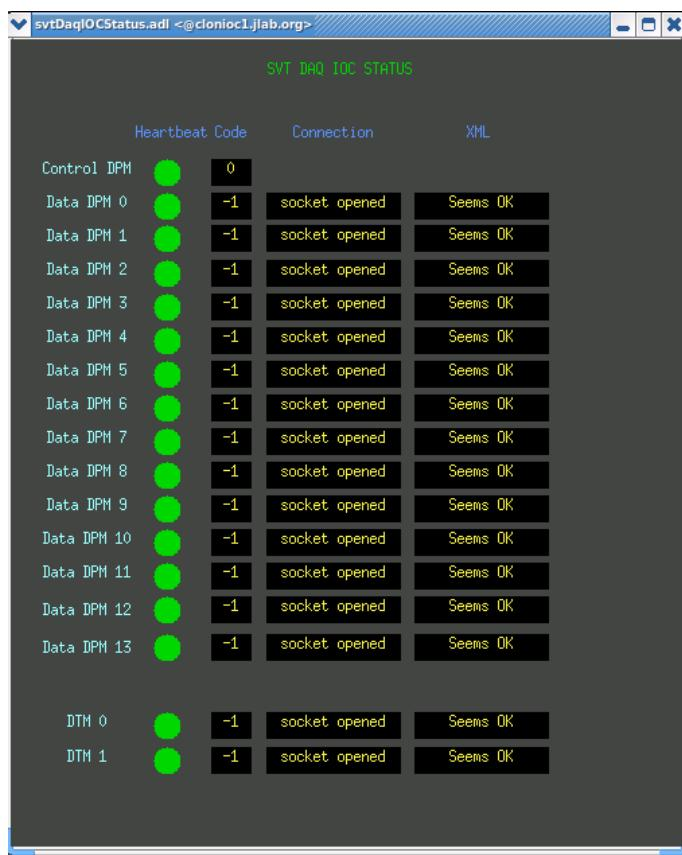

Figure 5: DAQ IOC Status GUI.
- **DAQ IOC Status** in Fig. 5.